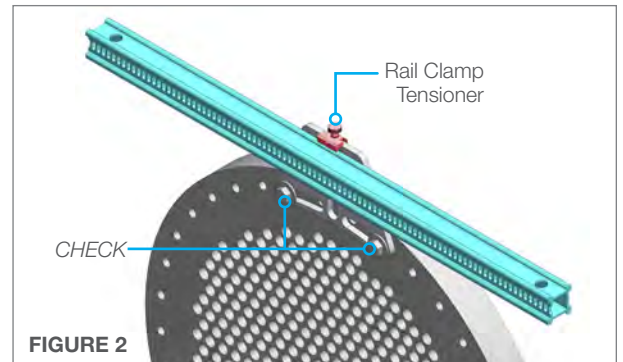

FIGURE 2
2. Loosen the **Rail Clamp Tensioner** on the top **Positioner Clamp** and insert the **Top Rail (slots facing out)** into the upper rail clamps. Tighten the **Rail Clamp Tensioner** securing the rail to the **Positioner Clamp**. Check Rail Clamp bolts to ensure they are secured to the tube bundle flange. **(Figure 2)**